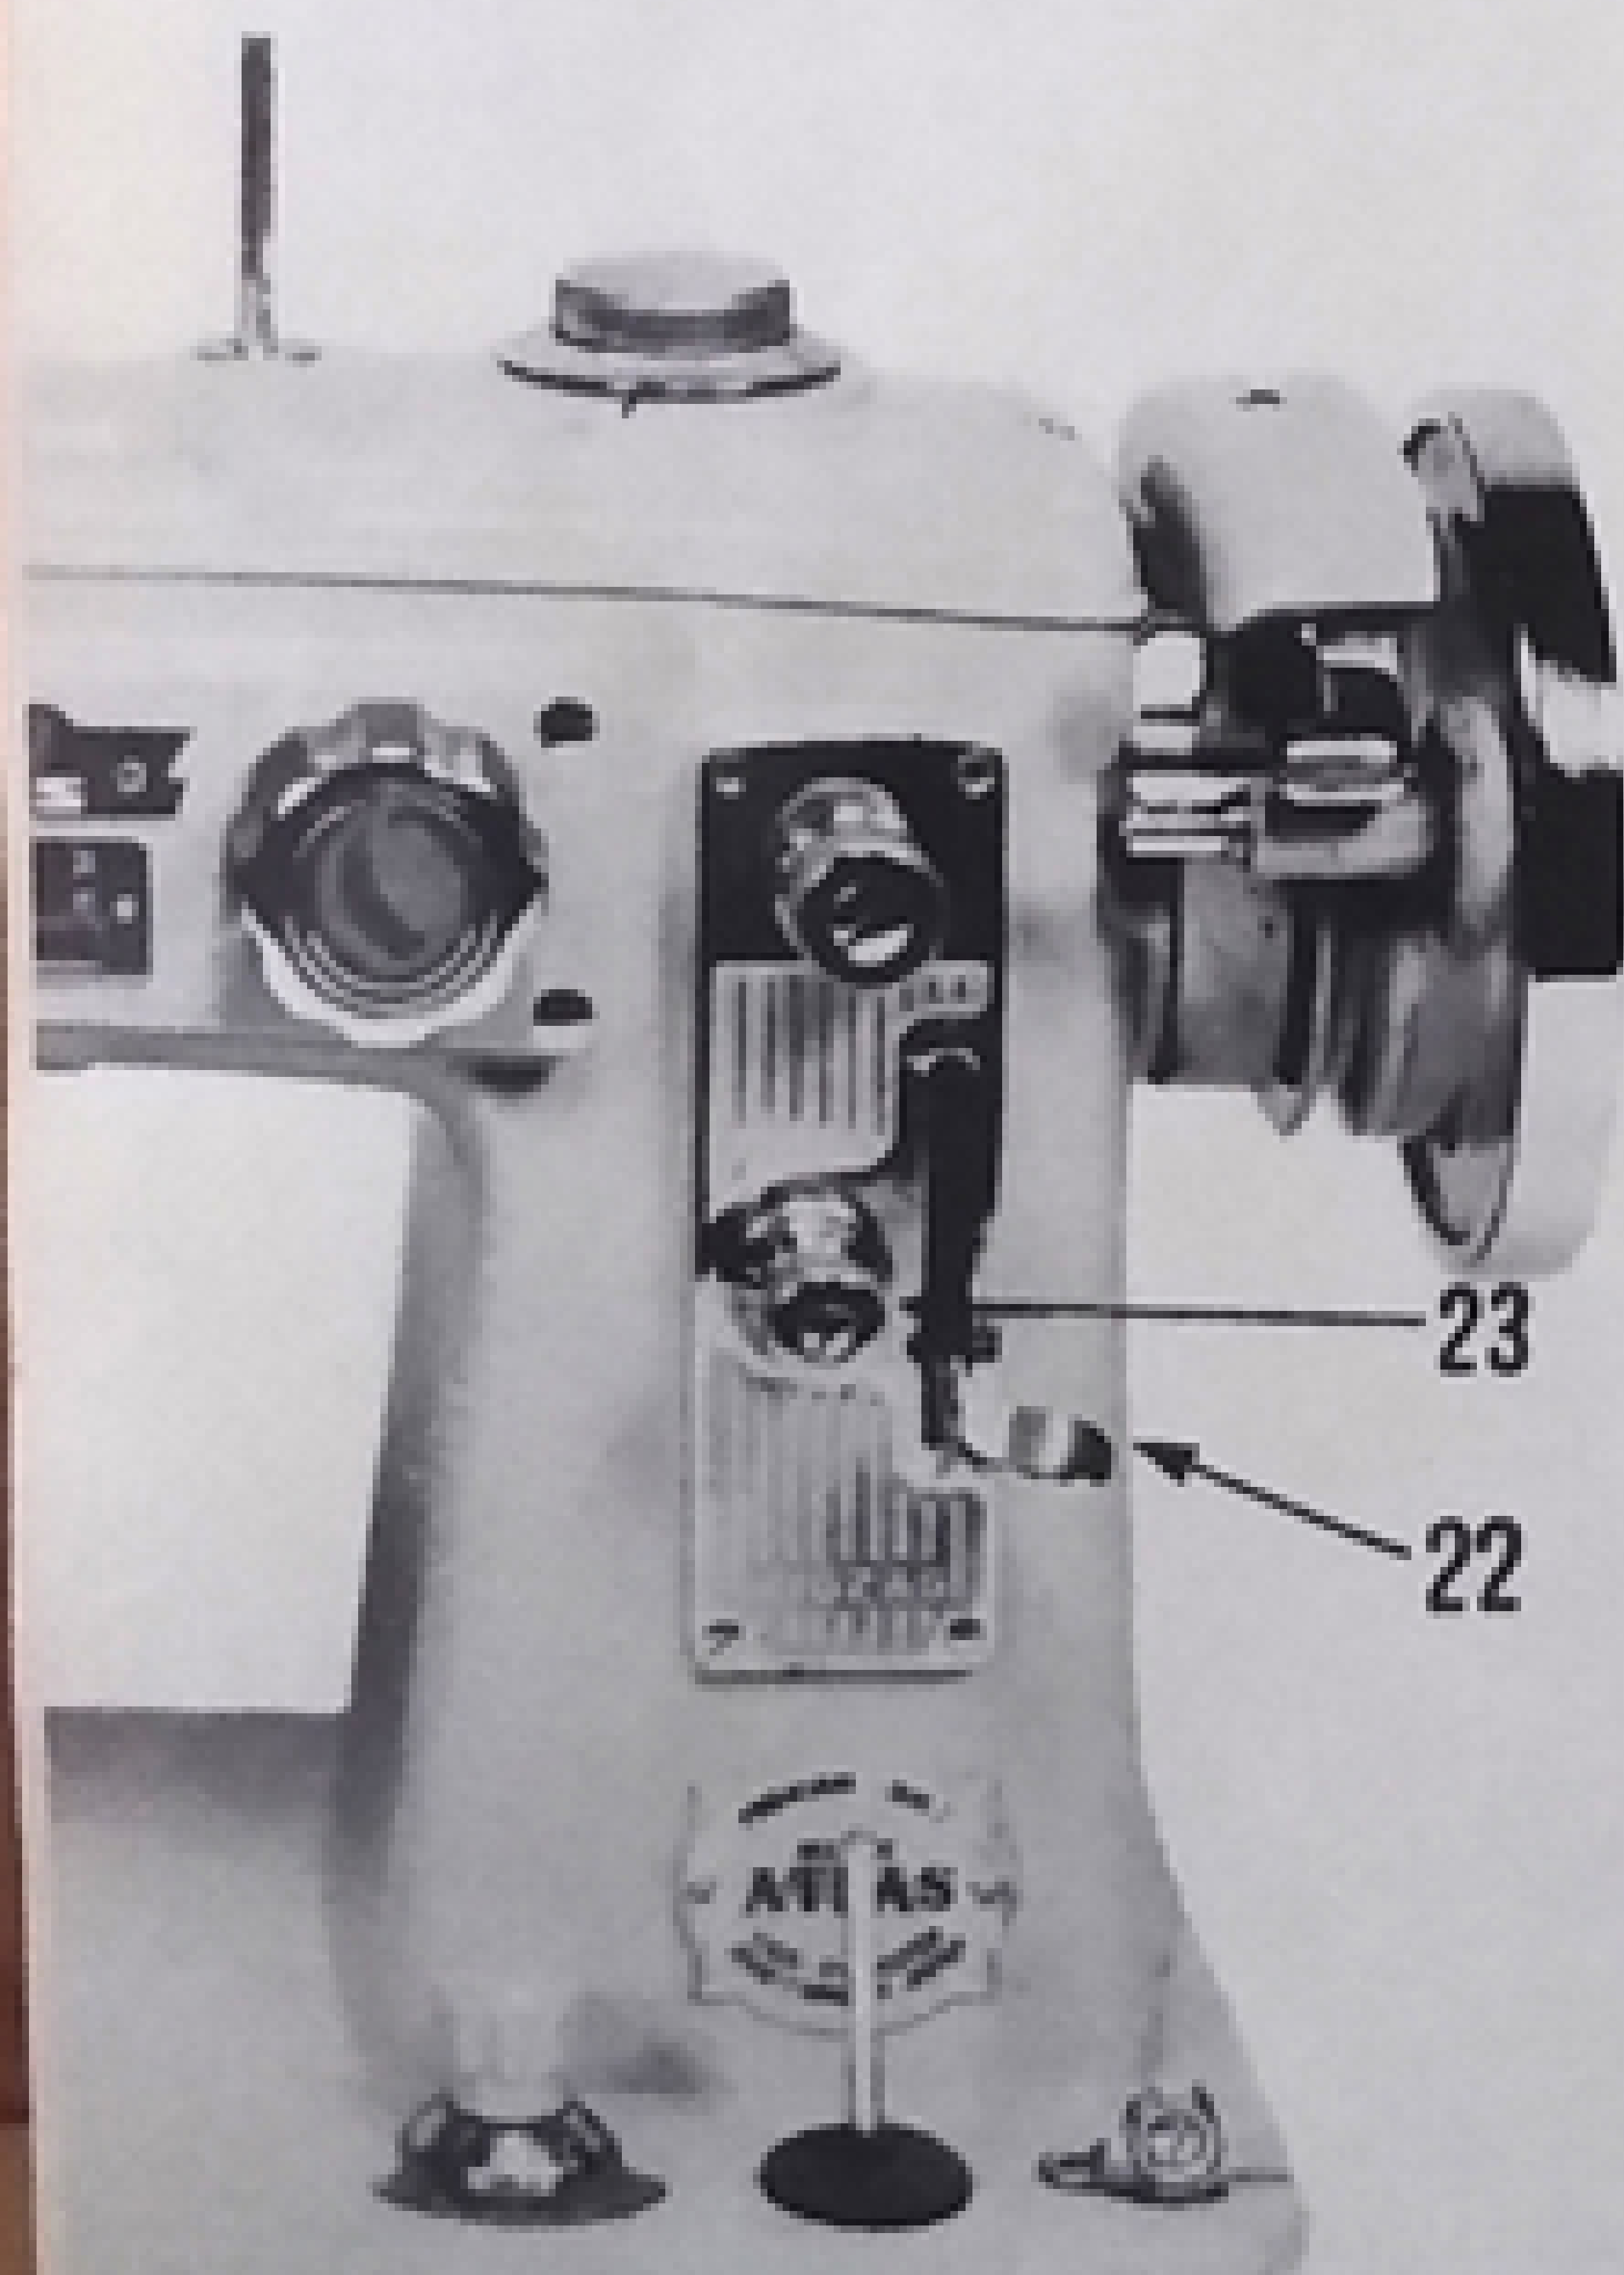

Fig. 13
Sewing direction, forward or reverse, is regulated by the stitch regulating lever (22) as shown in Fig. 13. The length of the stitch is regulated by the stitch regulating dial (23) which is graduated from 0-5 by quarters. Naturally, the smaller the number on the dial opposite the red line, as pointed to by the arrow in Fig. 13, the smaller the stitch will be.